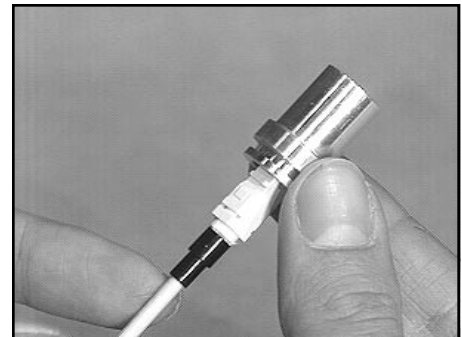

Fig. C10
- Once the buffer is seated, do not pull on the fiber. Keeping the fiber forward will ensure that the epoxy does not deposit anywhere inside the body of the connector. Hold the connector in place and carefully slide the crimp ring up over the Kevlar until the ring is seated with the back end of the connector (Fig. C10).